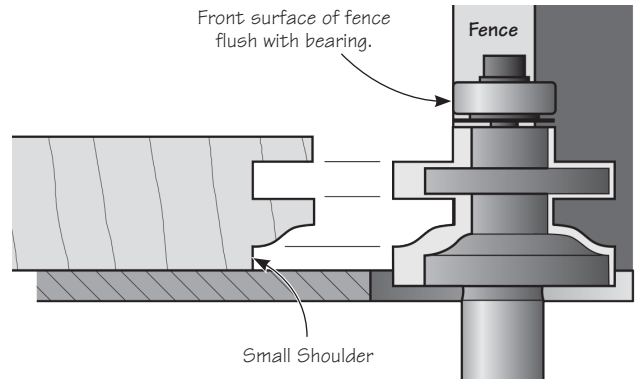

Figure 2: Set-up for sticking cut.
2. Install the sticking bit in a table-mounted router and adjust the height so that a small shoulder will be cut on the inner face of the frame pieces (see **Figure 2**). Set the router table fence flush with the pilot bearing. Rout the inner side of all the frame pieces (stiles and rails) and both long edges of the mullions and cross-rails.